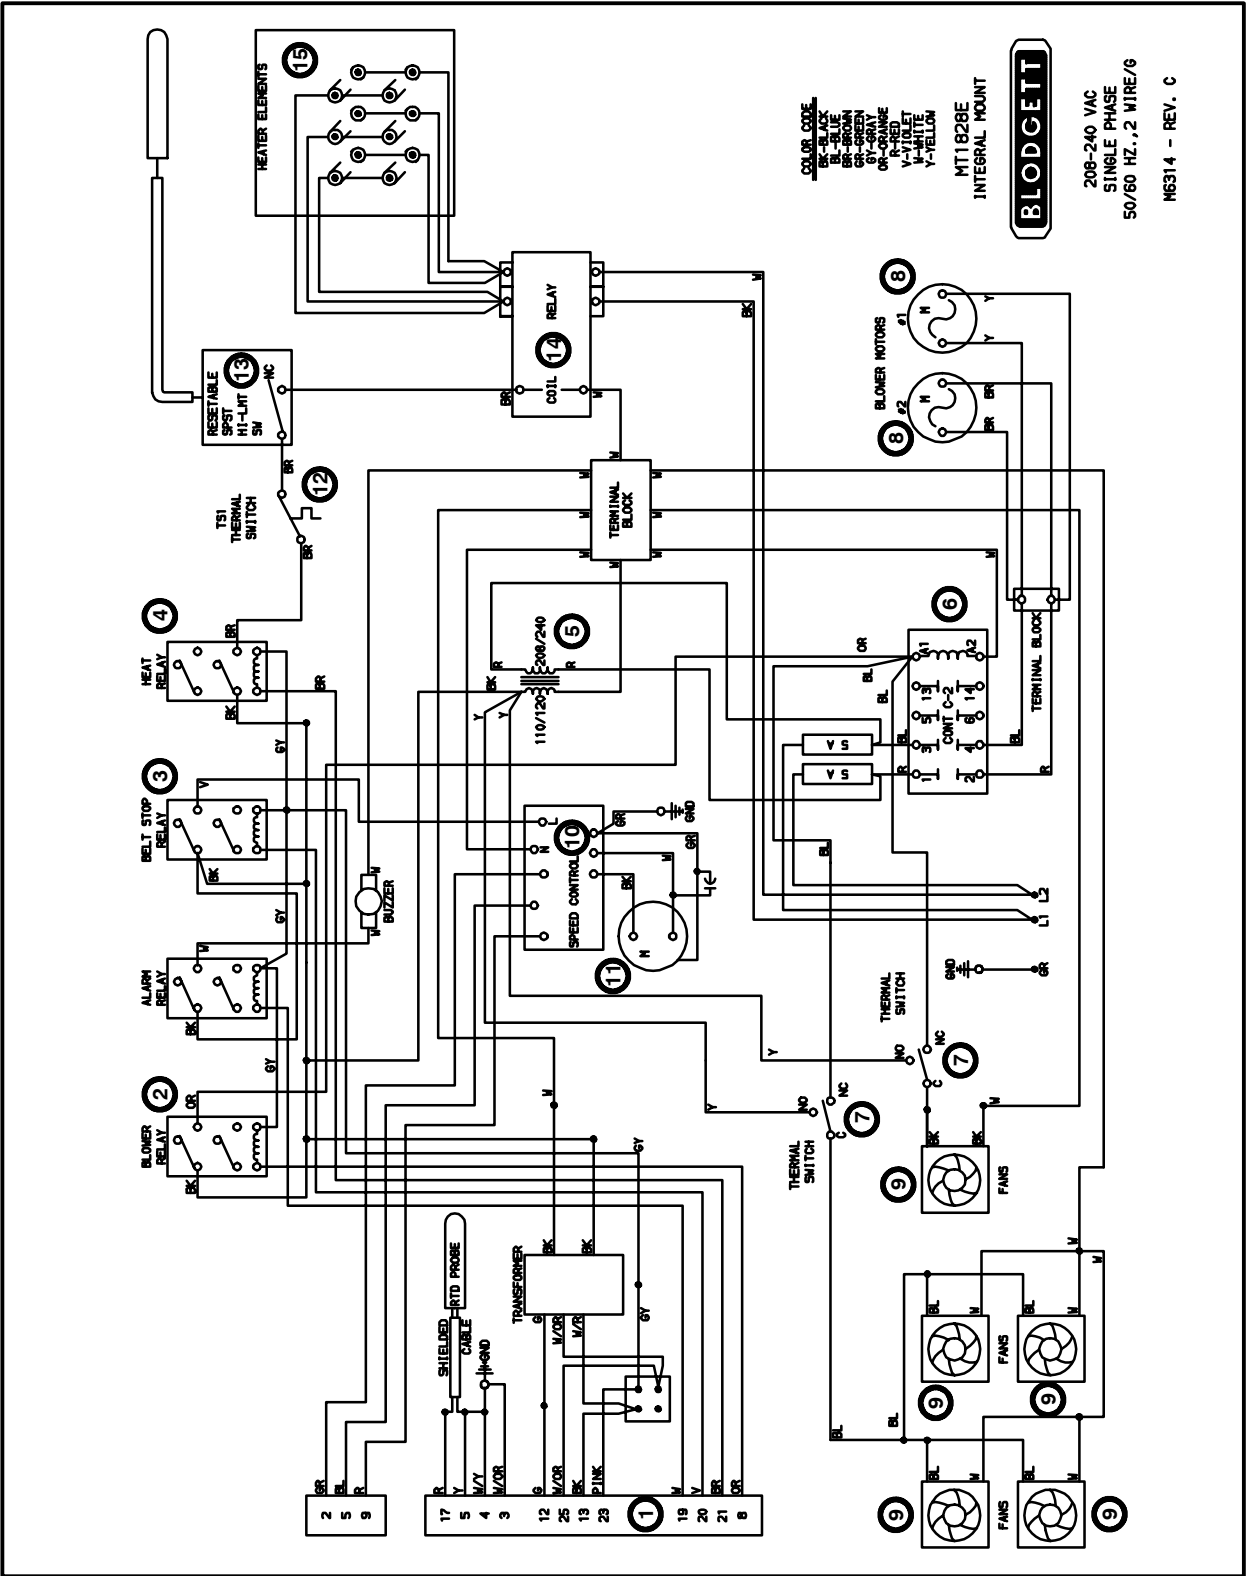

FIGURE 4
*NOTE: Refer to FIGURE 4 for component locations.*